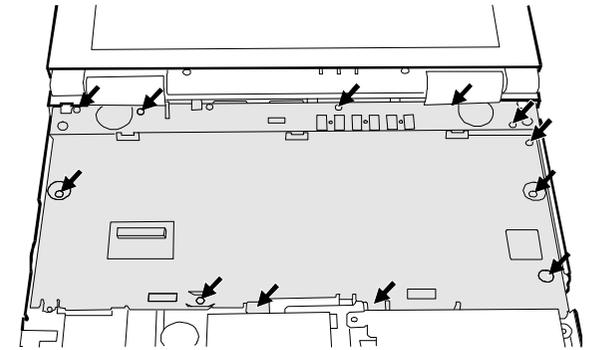

Figure 5-21. Removing the shield plate.
2. Remove the shield plate by removing 12 screws. (Refer to Figure 5-21)